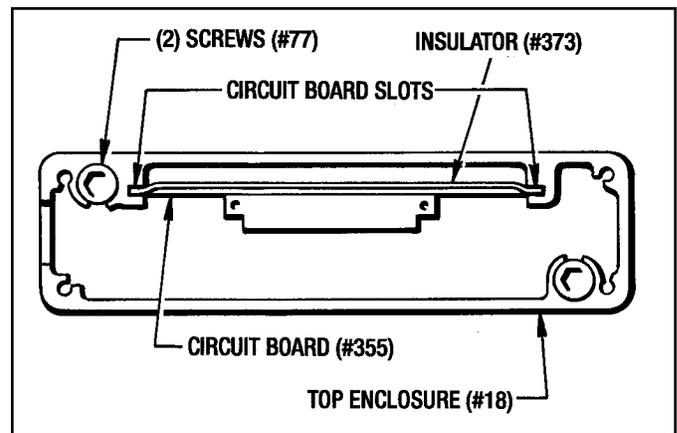

Figure 6.9 - Circuit Board Slots
- While holding the Circuit Board upright slide the Upper Enclosure (#18) down over the Circuit Board onto the Disc Housing. Make sure the edges of the Circuit Board are in the (2) side retaining slots located in the Upper Enclosure. (See Figure 6.9)
- Check the Gasket (#19) to see if it is still in place. Insert the (2) Screws (#77) and tighten down.